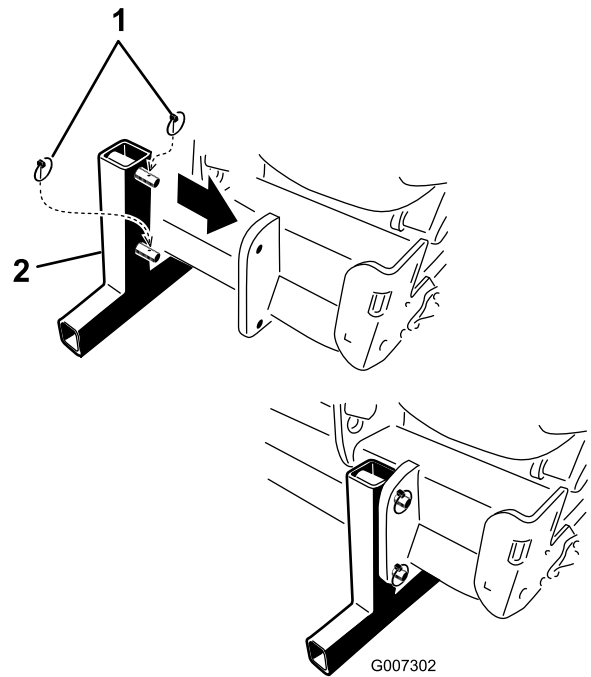

Figure 43
2. Install the storage stands and secure them to the machine with the lynch pins (Figure 43).